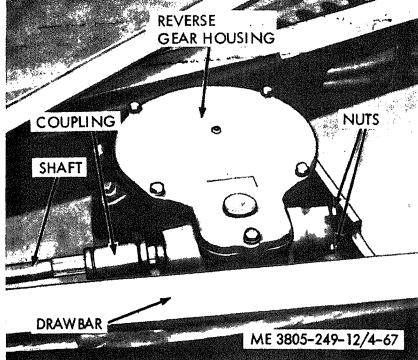

Figure 4-65. Checking pinion backlash.
(2) Remove the nut and washer which secure the yoke to the shaft.
(3) Support the housing and remove the six bolts which secure the housing to the frame.
(4) Remove the housing. Retain the shims located between the housing and the rail.
(5) Install the housing in the reverse order of removal. Install the same number of shims as removed from between the housing and rail.
(6) Align the keyway in the yoke with the key in the shaft, and press the yoke into position.
(7) Adjust the backlash between the centershift drive pinion and the rack (subpara c).
(8) Service the housing with lubricant (para 3-28).
c. *Circle Centershift Drive Pinion-to-Rack Backlash Adjustment.* Refer to figure 4-65.
(1) Check the backlash of the pinion with the rack centered, run full right and run full left. Backlash should be 0.010 to 0.030 inch.